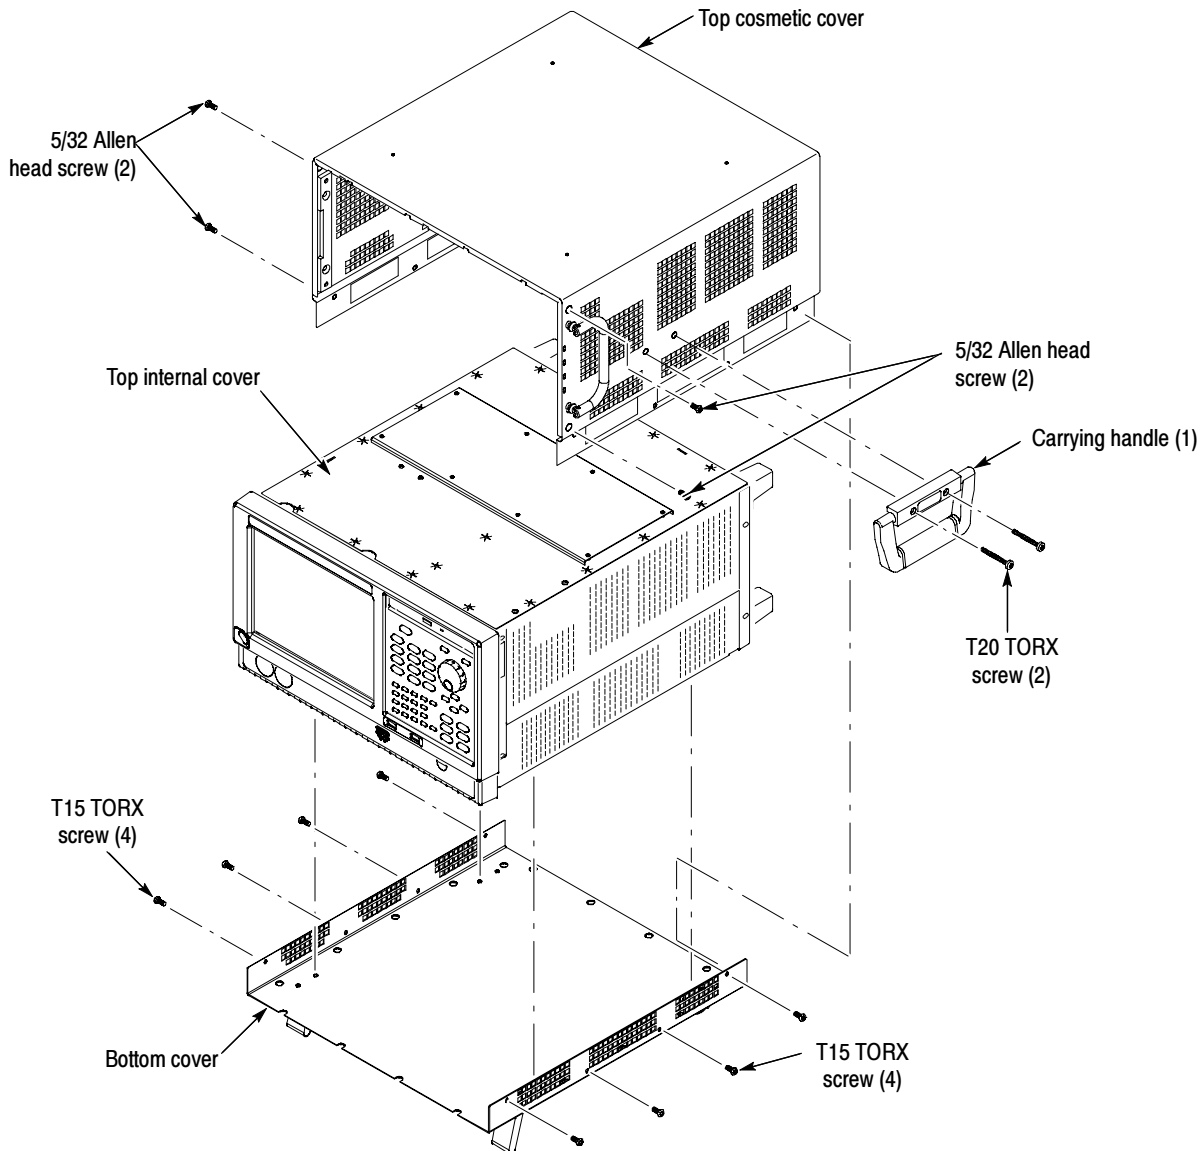

Figure 1: Removing cosmetic covers
2. Remove the two T15 TORX screws that secure the plastic carrying handle to the side of the instrument (it is not necessary to remove the black metal handles). See Figure 1.